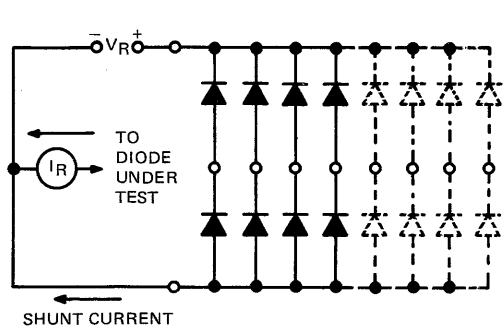

FIGURE 1—TEST CIRCUIT FOR COMMON-CATHODE DIODES
NOTES: 3. Test conditions and limits apply separately to each of the diodes. The diodes not under test are open-circuited during the measurement of these characteristics except for the measurement of IR on arrays having both common-cathode and common-anode diodes (see Figures 1 and 2).
4. For arrays having both common-anode and common-cathode diodes see Figures 1 and 2, Parameter Measurement Information section.